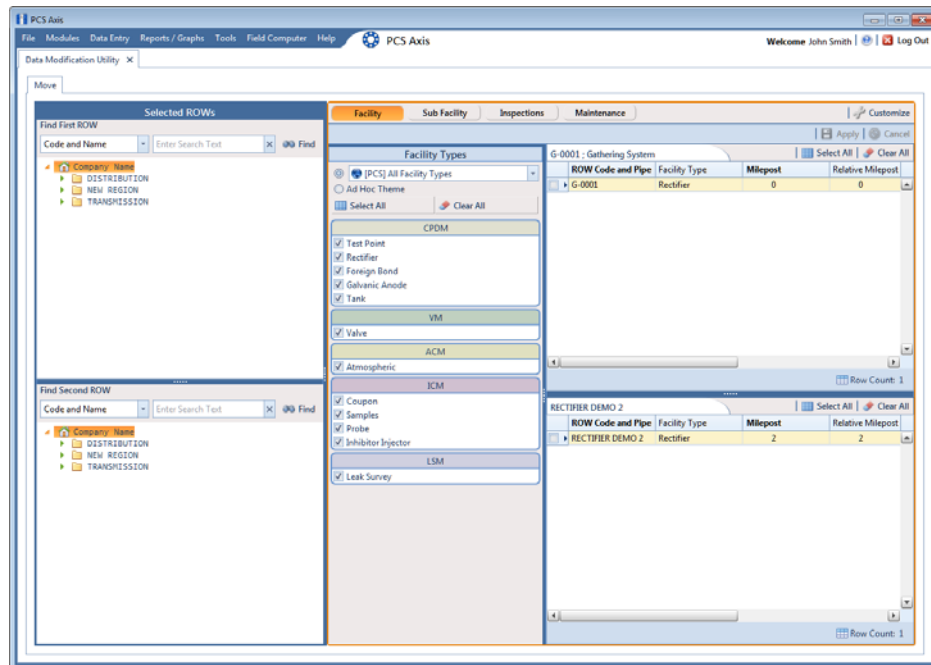

Figure 18-6. Data Modification Utility - Facility
- 1 Click **Tools > Data Modification Utility** to open the *Data Modification Utility* window (Figure 18-6).
- 1 Click **Tools** > **Data Modification Utility** to open the *Data Modification Utility* window (Figure 18-6).